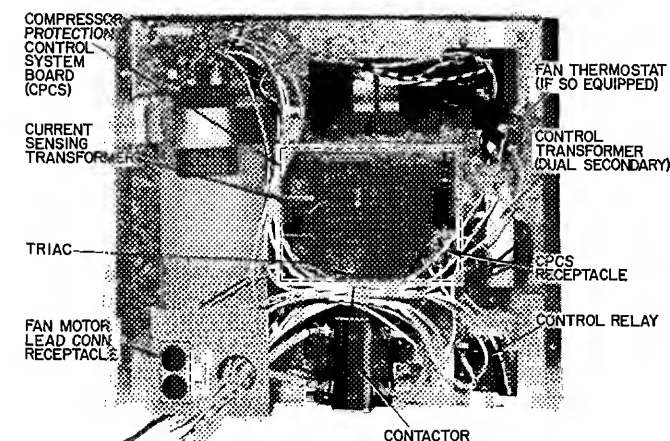

Fig. 7 — Control Panel (Cover Removed)
**Outdoor Fan Thermostat** (38SE055 and 38GR units) switches fan to high speed (Table 5) when outdoor temperature reaches 90 F – maintains proper condensing temperature at high outdoor air temperatures. Thermostat is located on Control Panel, Fig. 7.
**Compressor Protection Control System (CPCS — Solid State, Fig. 7)** provides: compressor motor locked rotor protection; compressor start winding protection; compressor motor running overload protection; compressor over-temperature protection; contactor anti-chatter protection.
2. Disconnect fan motor leads from control panel located on service door. See Fig. 7 and refer to Service Door on page 3. Remove 6 screws holding fan motor orifice assembly in place and lift assembly from unit.